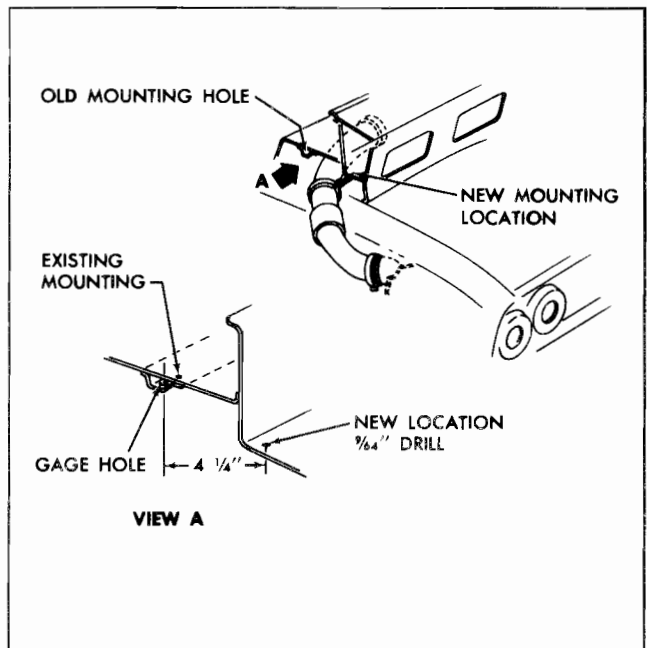

Fig. 11—Revised Strap Mounting
1. Drill a 9/64" diameter (No. 29 drill) hole upward through the plenum panel 4 1/4" rearward of the gage hole (Fig. 11).